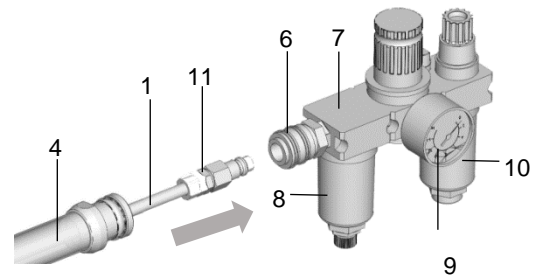

Fig. 5.3 – Compressed air hose
- 6) Screw the rapid action coupling (6) (with sealing ring) into the oil mist lubricator (7) (with filter pressure reducer). Make sure that the oil mist lubricator is assembled in the following sequence: water separator (8), pressure gauge (9), oil mist unit (10). See Fig. 5.3.
- 7) Insert the plug connection (11) into the coupling (6). See Fig. 5.3.